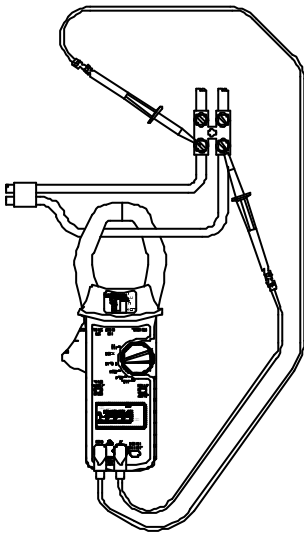

Fig. 4
- Press the trigger to open the jaws, and clamp them on the current carrying conductor, as shown in Fig. 4
- When configured to measure power (Fig. 4) with the test leads connected and the jaws clamped around a current carrying conductor, the instrument displays the frequency of the current source (providing $ARMS > 10A$). If $ARMS < 10.0A$, a volts frequency measurement will be made (providing $VRMS > 10V$), otherwise ---.- will be displayed